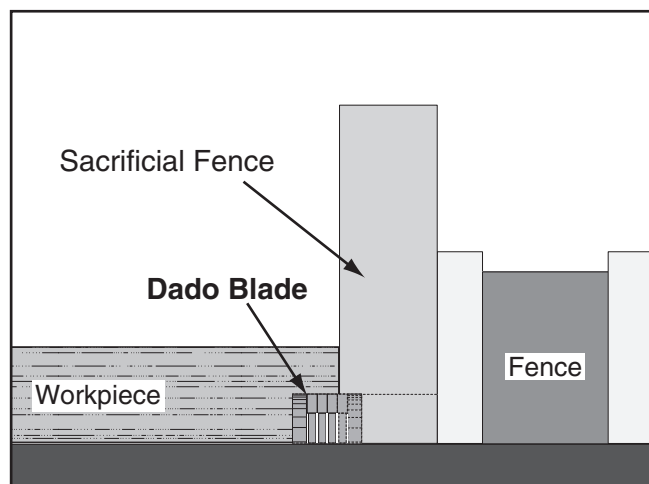

Figure 63. Rabbet cutting.
3. Adjust fence and align workpiece to perform cutting operation, as shown in **Figure 63**.